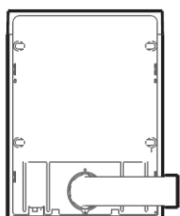

Figure 1
1. Align the accessory elbow horizontally to the left or right, align the end with the slot on the exhaust port on the back of the dryer, and push the latch into the slot firmly (Figure 1).